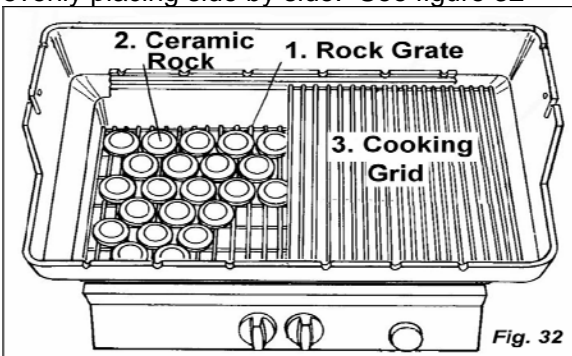

Figure 32 Proper placement of rock grates and "Moon ROK" and Cooking Grids
2. Place ceramic "Moon Rok II" on rock grate by evenly placing side by side. See figure 32